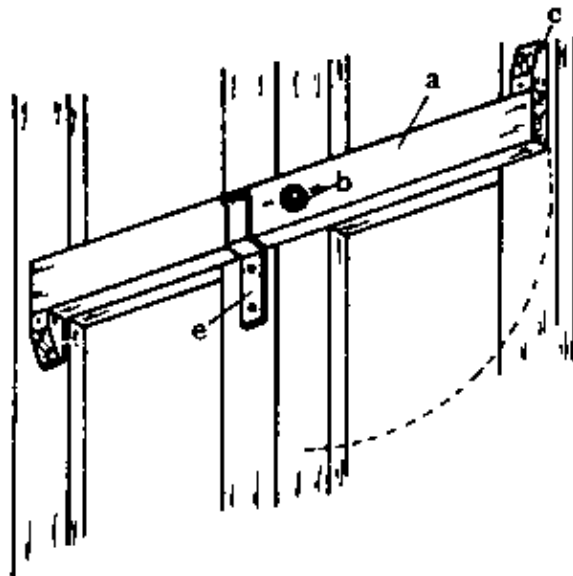
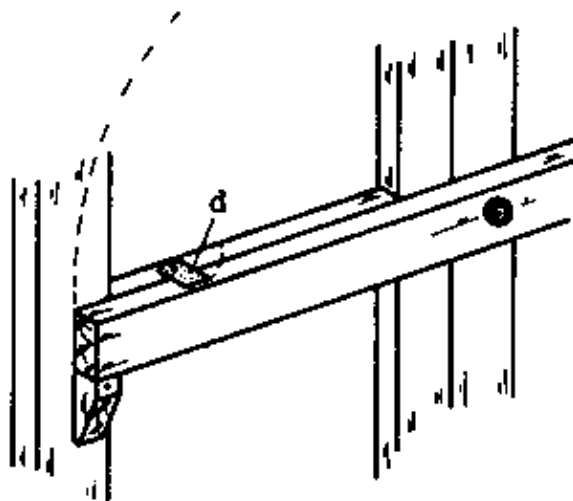

Fig. 4
Fig. 5
– LOCKING DEVICE FOR LARGE DOORS: The drawings below show a locking device used for large doors on stores etc, where trucks or other vehicles may have to enter to deliver goods (Fig. 4). It consists mainly of a long baulk (a) which can hold the two doors securely shut. The baulk is fixed with a coach bolt (b) onto one of the doors.
Two wooden blocks (c) hold the baulk in position when the doors are closed and a catch (d) prevents the baulk from swinging open by its own weight or from a gust of wind (Fig. 5). A piece of flat iron (e) bent as shown in Fig. 4, keeps the baulk in the locked position. This iron should be firmly attached to the door.